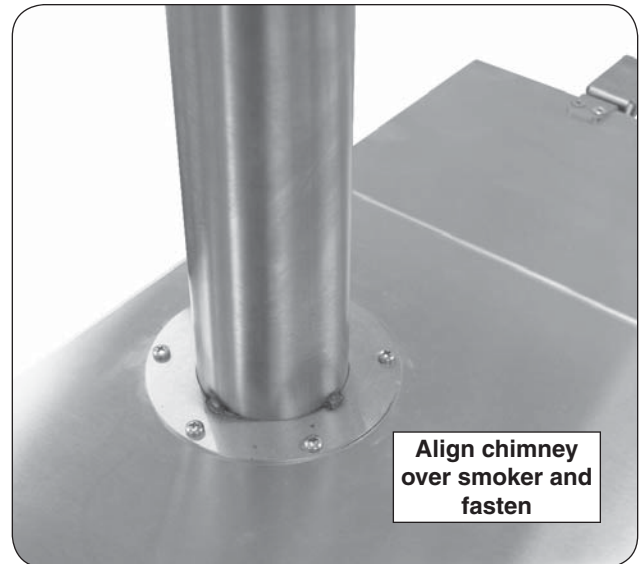

Fig. 6-1
3. Hand tighten 5 of the supplied screws in place, being sure that the chimney is properly aligned. Then use a Phillips screwdriver to completely fasten. See Fig. 6-1.